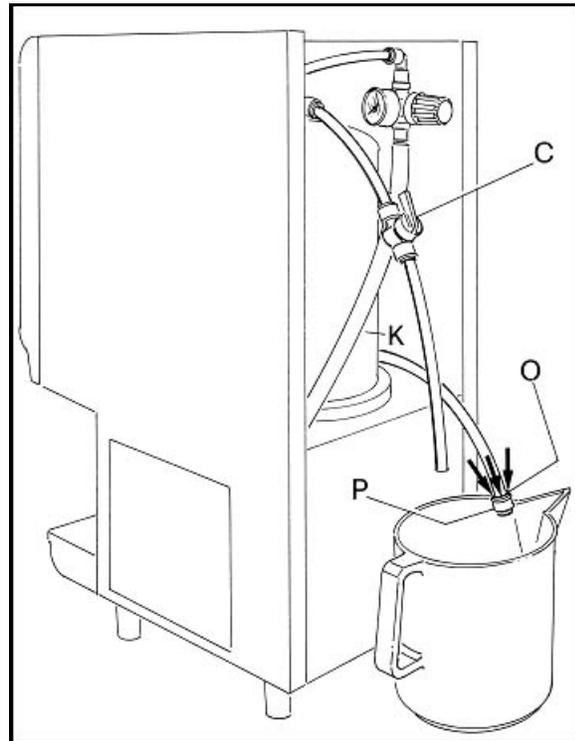

FIGURE 17
1. Drain the reservoir tank (K), see FIGURE 17:
- B. Remove coupling (P) by pressing on clamp (O).
- C. Place an empty container (with at least 2 gallon capacity) at the end of the tube in which tap (C) is mounted.
- D. Open tap (C).
- E. Allow the water to completely drain out of the reservoir tank (K).